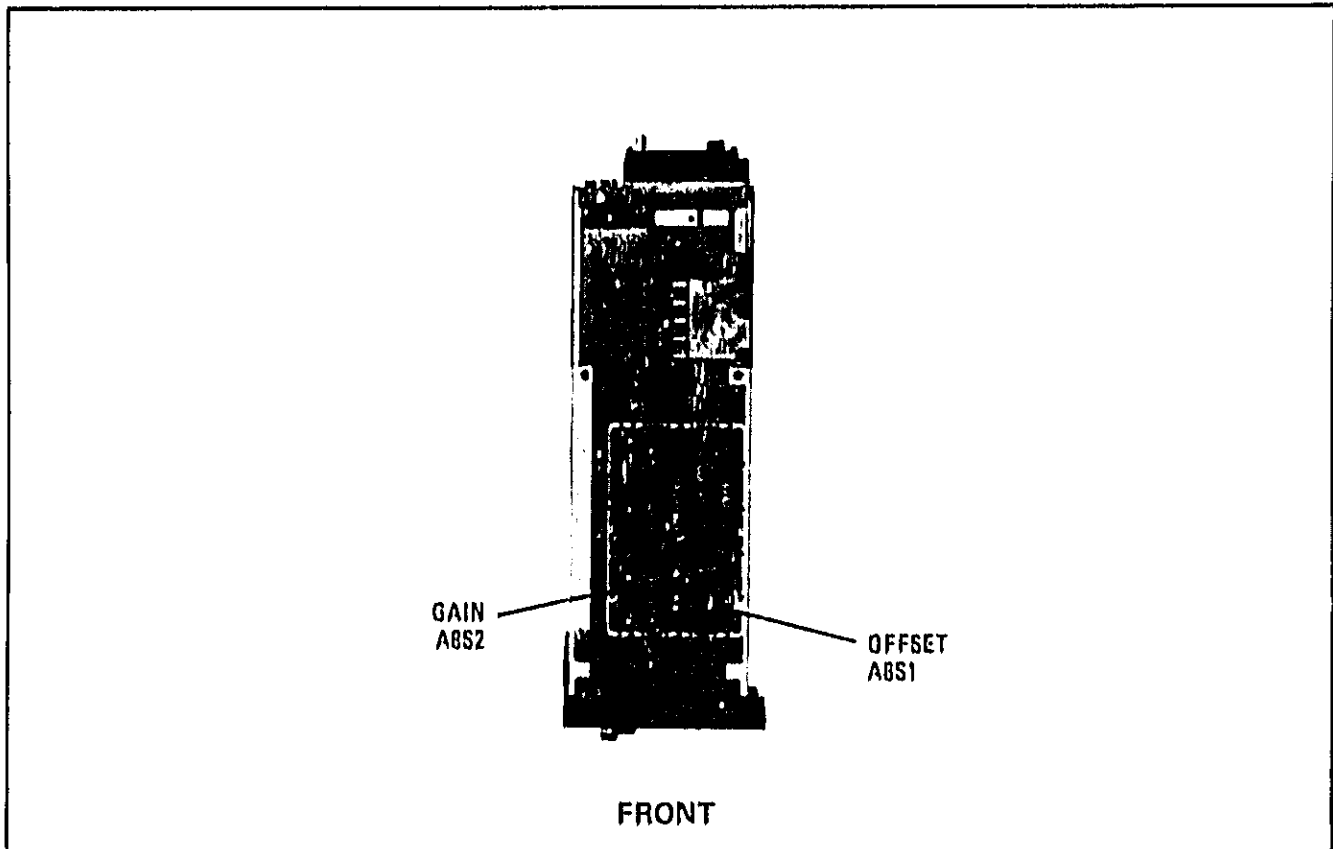
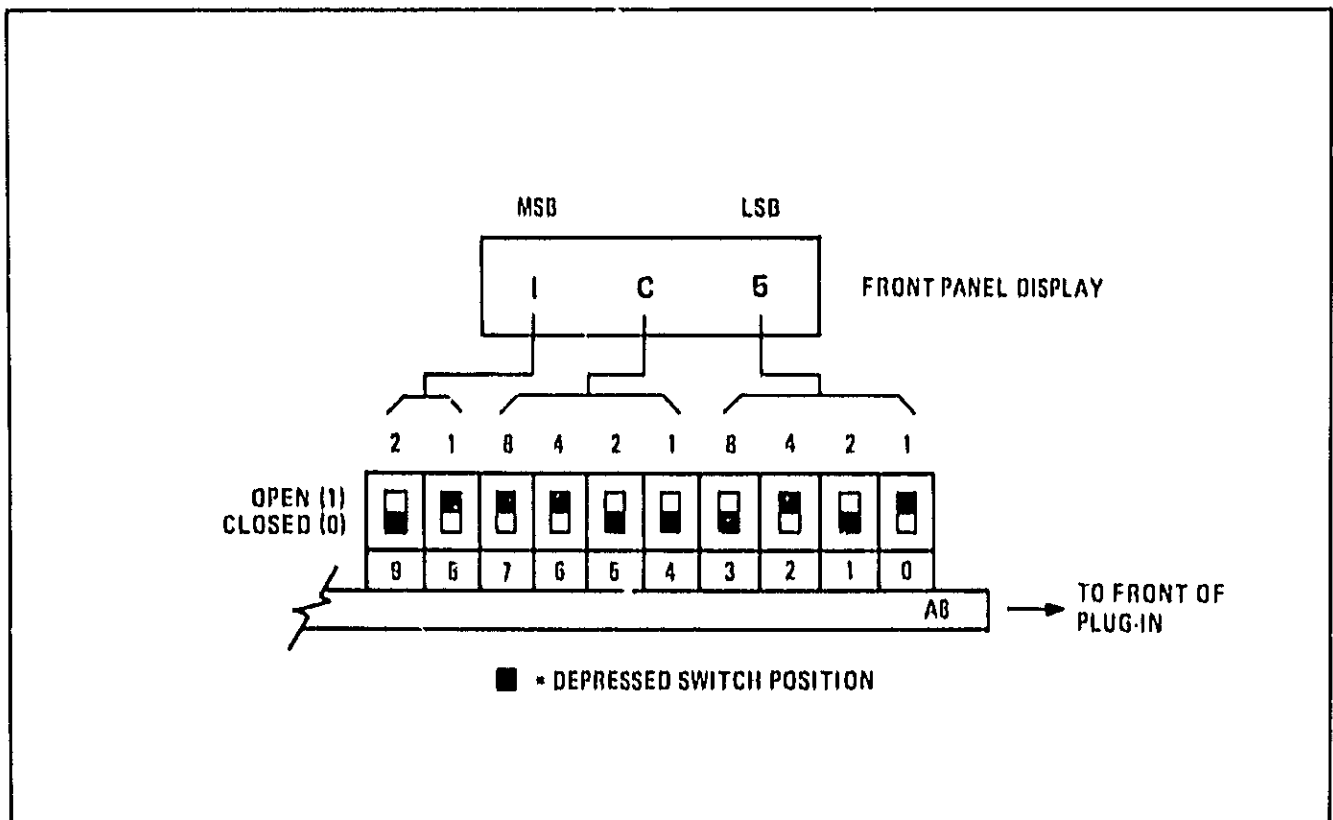

Figure 5-10. Frequency Calibration Adjustment Location
Figure 5-11. ABS1 and ABS2 Frequency Calibration Switch Configuration
8. Set switch **A8S1** for the hexadecimal value displayed in the 83590A **POWER** display. Refer to Figure 5-10 for the location of the frequency calibration switches. Refer to Figure 5-11 for an illustration of the calibration switch configuration.